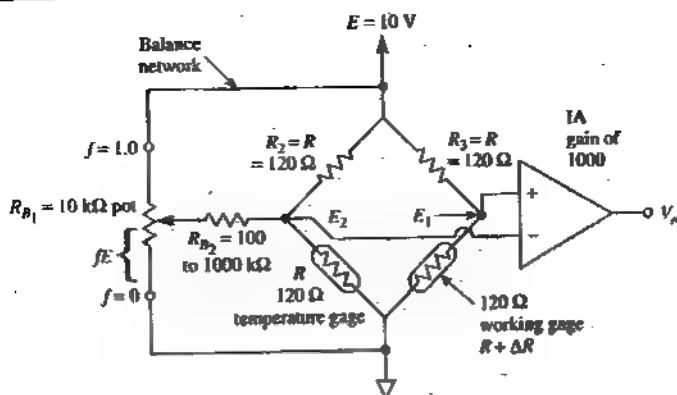
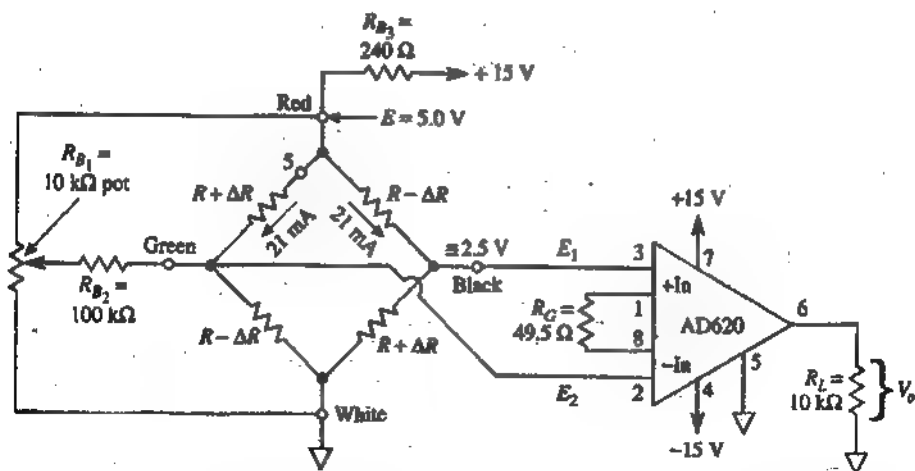

FIGURE 8-15 Improved balance network. R_{B1} and R_{B2} allow easy adjustment of V_o to 0 V.
FIGURE 8-17 The AD620 instrumentation amplifier is used to amplify the output of the four working strain gages [see Fig. 8-16(c)].
To analyze operation of the balance network in Fig. 8-15, assume that the R_2 and R_3 bridge resistors are reasonably equal, to within $\pm 1\%$. The strain gage's resistance should have equal resistances within several milliohms if the working gage is not under strain.
Of course, each bridge arrangement in Fig. 8-16 should be connected to a balance network (which, for clarity, was not shown) (see Fig. 8-15 and Topic 8-8). Note that the output of the four-gage bridge is linear.
As shown in Fig. 8-17, an AD620 (Analog Devices) instrumentation amplifier (IA) is connected to a bridge arrangement of four strain gages. The gages are 120Ω , SR4, foil-type strain gages. They are mounted on a steel bar in accordance with Fig. 8-16(c). Also the balance network of Fig. 8-15 is connected to the strain-gage bridge. R_{B_2} was selected, after experiment, as $100\text{ k}\Omega$. Strain gages were mounted in strict accordance with the manufacturer's instructions (BLH Electronics, Inc.). From the table in Fig. 8-9(b) R_G is selected for a gain of 1000.
The SCC of Fig. 8-17 is used to measure the strain resulting from deflection of a steel bar. V_o is measured to be 100 mV. Calculate (a) ΔR ; (b) $\Delta R/R$; (c) $\Delta L/L$. The gain is 1000. The gage factor is 2.0.